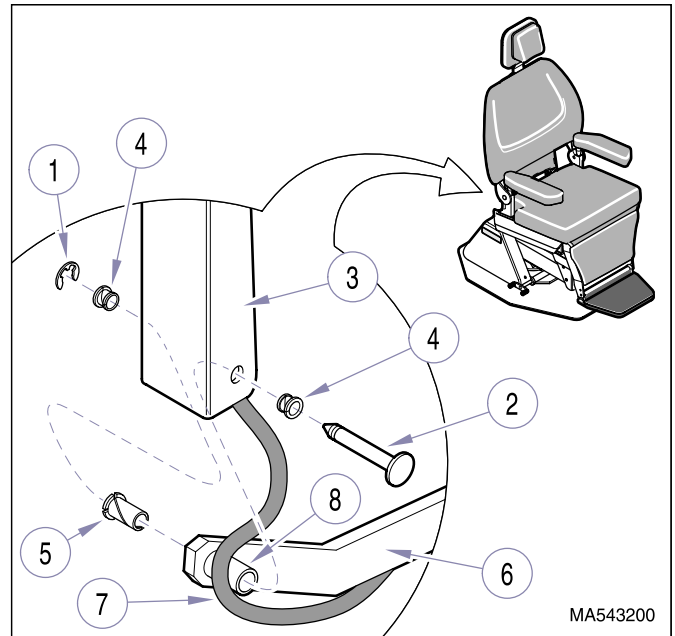

Figure 4-29. Back Section Pivot Bearings Removal / Installation
- (1) Raise BACK UP function all the way up.
- (2) Remove retaining ring (1, Figure 4-29) from each pin (2).